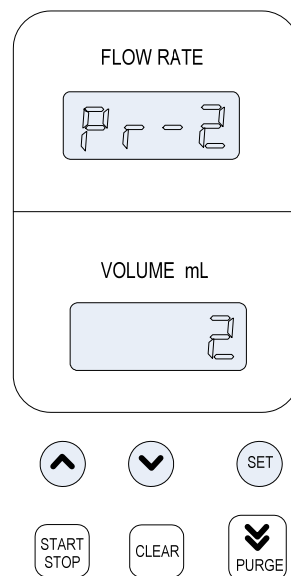

Figure 3 Occlusion Sensivity Setting
3. Press [INCR] key again, until "FLOW RATE" area displays "4444". Press [DECR] key twice, until the pump displays "Pr-2" (see Figure 3).